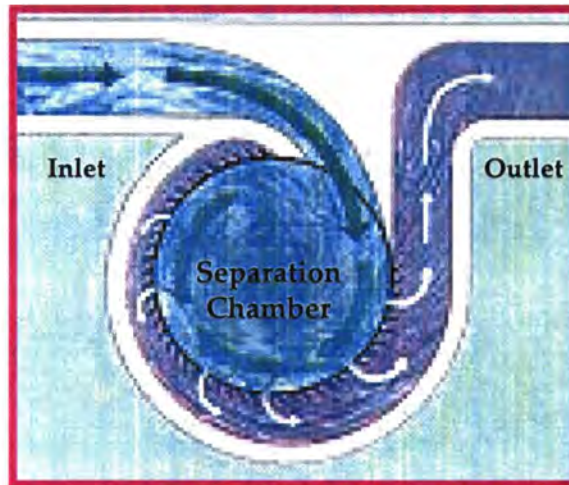

Figure 1
- 1.2.2.1 The patented Continuous Deflective Separation (CDS) technology allows screening of solids from liquids at high flow rates without blinding of the screen. A CDS unit consists of an approximately cylindrical tank with specially shaped inlet and outlet channels to lead the water smoothly to and from the unit. A cylindrical screen is located inside this tank and the influent is introduced tangentially to the inside of the screen, forming a continuously rotating body of water, while water that has passed through the screen flows along the outside in the opposite direction to this rotation. The region inside the screen is known as the separation chamber and trapped solids either float on the top of the fluid there or settle below this chamber into a collection sump. Figure 1 presents a schematic of the cross section of a CDS unit.